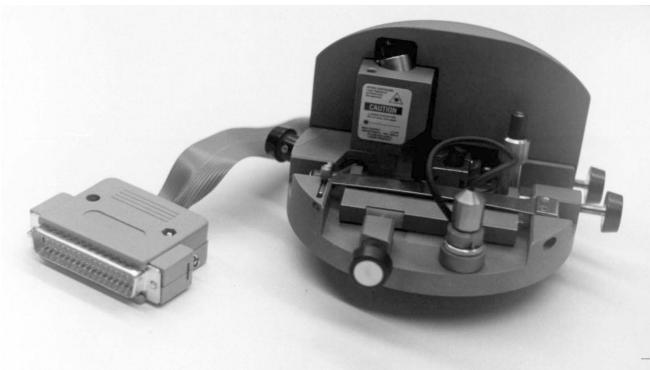
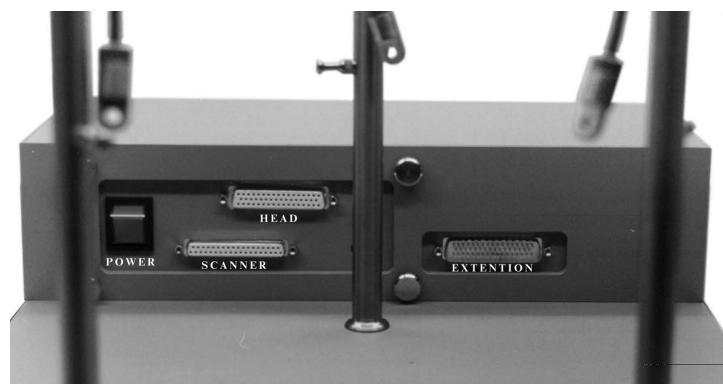

Fig. 13
Fig. 23
- 4) AFM head with the standard adjustable part (Fig. 13).
- ✓ the following is located on the front panel (Fig. 23): three terminals to connect a scanner («Scanner»), a measuring head («Head») and external devices («Extension») as well as the power switch («Power») and the grounding terminal.
- 2) Connect the cable 1 (Fig. 25), going out of the scanner cabinet to the SCANNER terminal (Fig. 23).
- 3) Connect the cable (Fig. 13), going out of the measuring head to the HEAD terminal (Fig. 23).
Turn on the computer and SPM by the switch on (POWER) its front side (Fig. 23). Start the program s7_spm.exe (this program had to be installed - see item 2.3.2.1).